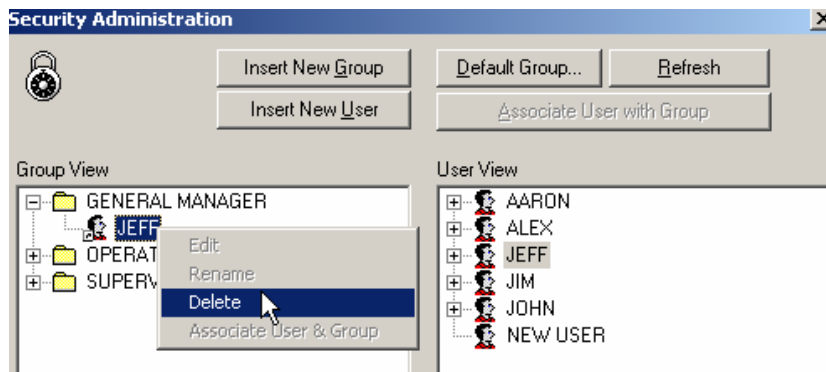

Figure 9.58. Dissociating Users and Groups
- Right-click the user or group to be dissociated and select **Delete** from the pop-up menu, as shown in **Figure 9.58**.